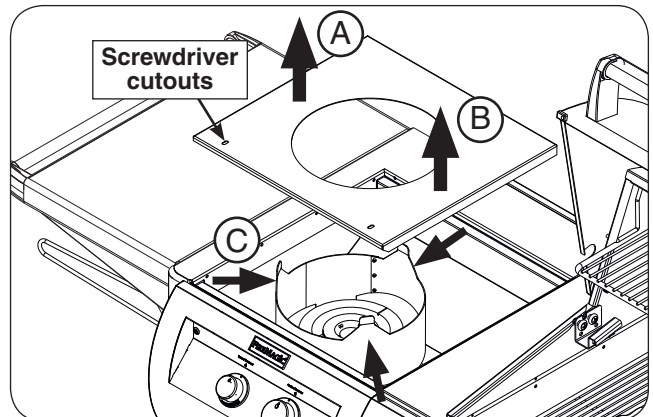

Fig. 46-3 Interior protection plate removal
9. Lift up the interior protection plate from the left side, then lift up from the right side (see Fig. 46-3, A and B).
10. While lifting the plate upward, flex the collimator inward to completely free the protection plate (see Fig. 46-3, C).